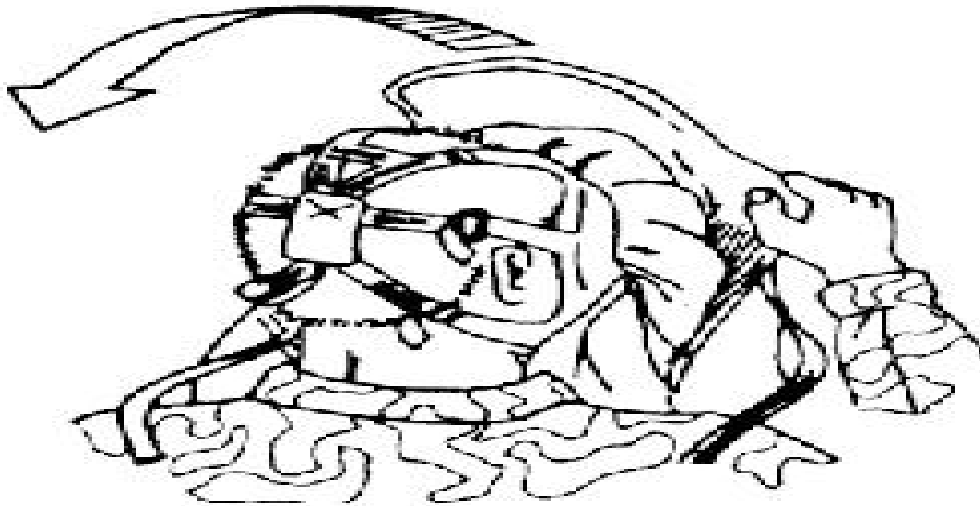

Figure E-73. Pulling hood over head.
- a. Grasp the back edge of the hood skirt (figure E-73).